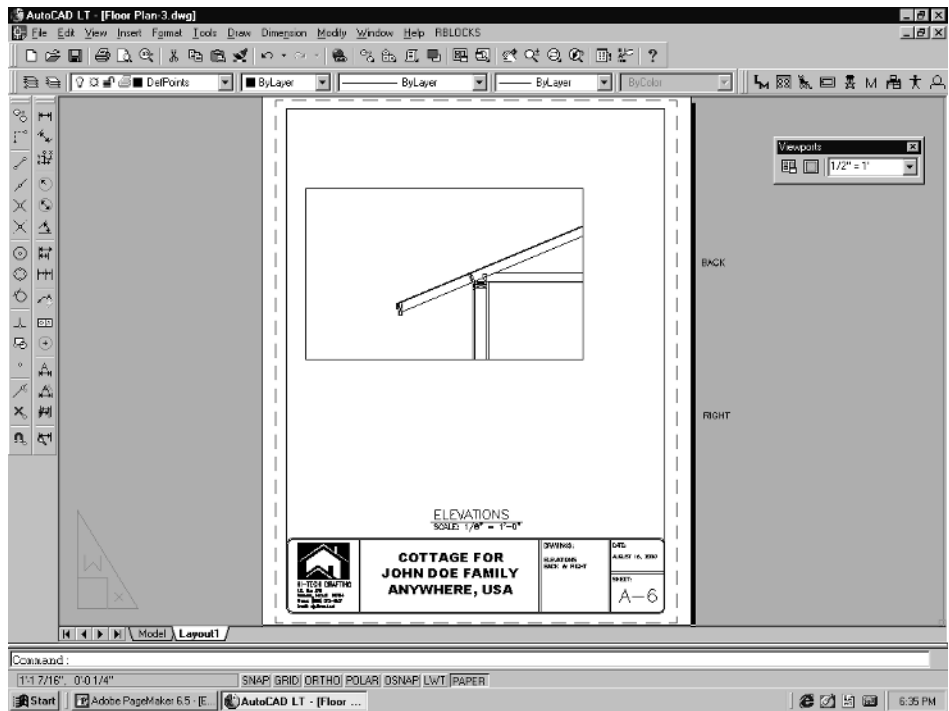

Figure 5-9
8. Use the Pan Realtime command to pan the truss/wall area detail into the center of the viewport. Then, switch back to paper space by picking the **MODEL** button on the status bar. This will change to read PAPER. You can then pick on the viewport outline so that the grips in each corner “light up.” Pick on any of the grips and begin to reduce the size of the viewport, as shown in Figure 5-9.